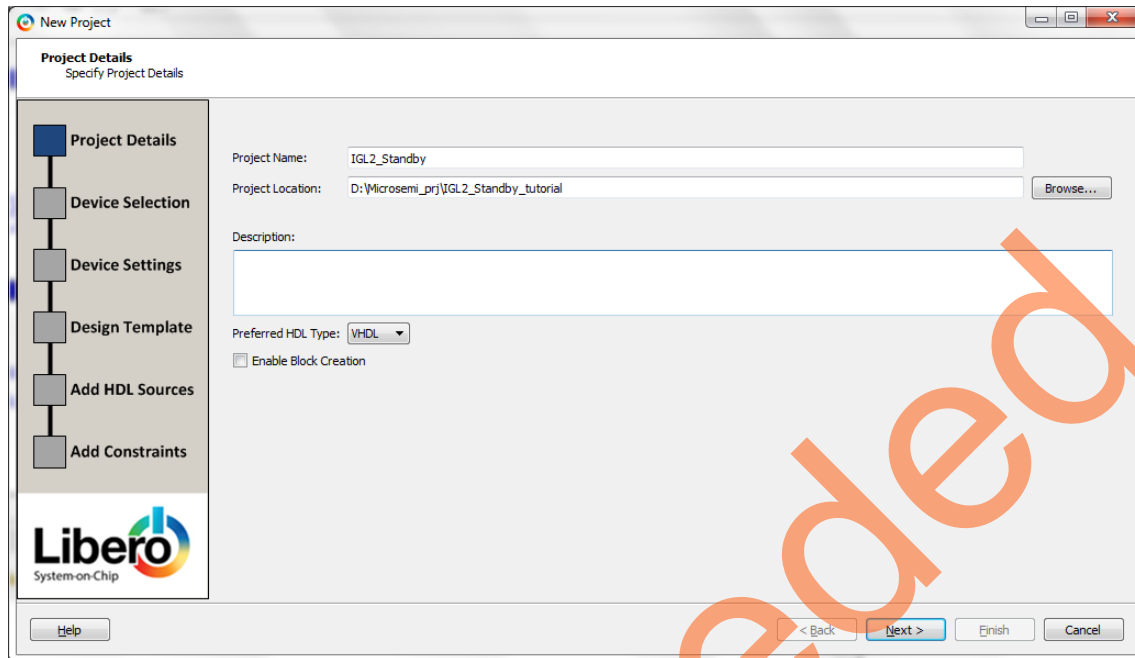

Figure 3 • New Project - Project Details Page
- Click **Project > New Project** from the Libero SoC menu. This opens **New Project** window as shown in Figure 3.
3. Enter the following information in the **New Project - Project Details** page as shown in Figure 3: